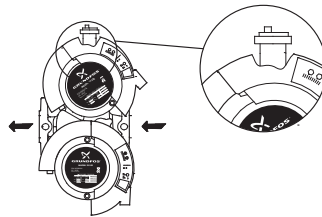

Fig. 1 Automatic air vent
**Caution** *Twin-head pumps mounted in horizontal pipes must be fitted with an automatic air vent (Rp 1/4) in the upper part of the pump housing, see fig. 1.*